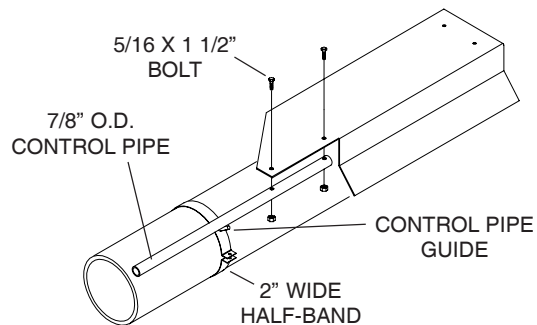

FIG. 17
- 7A. Attach center well gate to the 7/8" O.D. control pipe (See Fig 17 and procedures below).
- B. Check length of control pipe by sliding it through the control pipe of the intermediate well(s). When the control pipe is fastened to the gate, the center well control pipe should extend past the end of the intermediate well control pipe a minimum of 3" (See Fig. 17).
- C. Attach control gate to control pipe using two (2) 5/16 x 1 1/2" bolts and nylon locknuts.